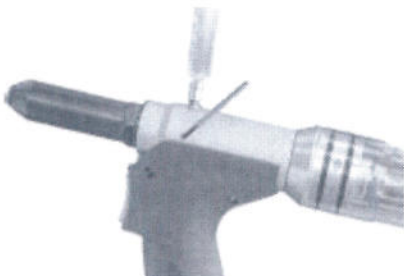

Fig 4
3. Screw the priming pump of filled oil into the bleed screw hole. Actuate the priming pump by pressing down and releasing several times until resistance is felt. (Fig. 4)